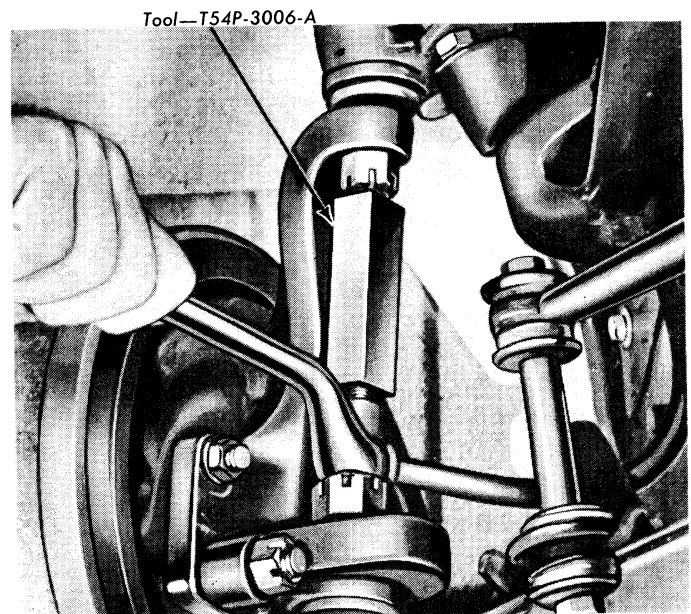

Fig. 7—Loosening Ball Joint Front Spindle
Place a box wrench over the lower end of the remover shown in fig. 7. Install the remover so that the tool seats firmly against the ends of the lower and
(2) **SUSPENSION UPPER ARM.** Remove the shield from the front fender apron. Place a jack under the suspension lower arm, and raise the front of the car until the wheel clears the ground. Place a support under the frame. Remove the front wheel. Attach a wire from the spindle to the frame to prevent damage to the brake hose. Remove the cotter pin from the upper ball joint nut, then back off the nut one or two turns. Loosen the upper ball joint stud from the spindle with the tool shown in fig. 7, and by tapping the spindle near the ball joint with a hammer. Remove the nut from the stud.
attach a wire from the plate to the frame to prevent damage to the brake hose. Remove the cotter pins from the upper and lower ball joint nuts, then loosen the lower stud nut. Position the remover (fig. 7), then apply pressure between the two studs. Tap the spindle sharply near the lower ball joint with a hammer to loosen the lower stud from the spindle. Remove the upper stud from the spindle in the same manner.